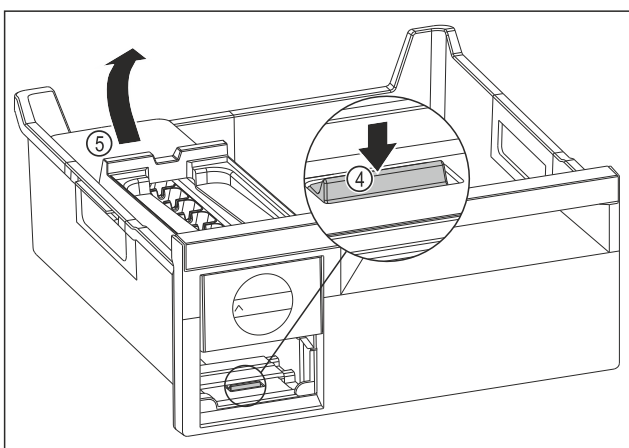

Fig. 171
- ▶ Removing the EasyTwist-Ice body: Use your finger to push the tab Fig. 171 (4) down and use your other hand to lift the EasyTwist-Ice body Fig. 171 (5) from behind at the same time.